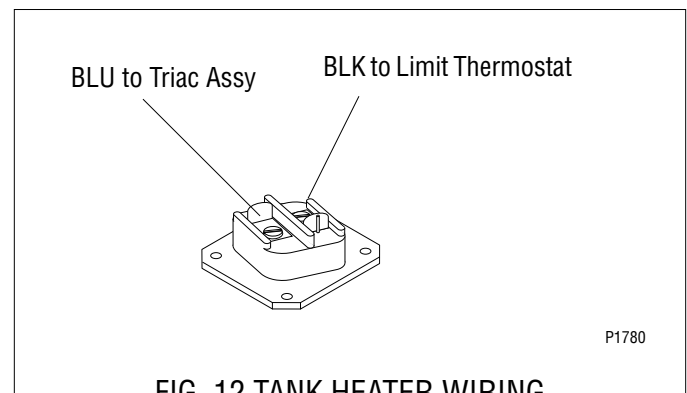

FIG. 12 TANK HEATER WIRING
6. Reconnect the wires, FIG. 12.